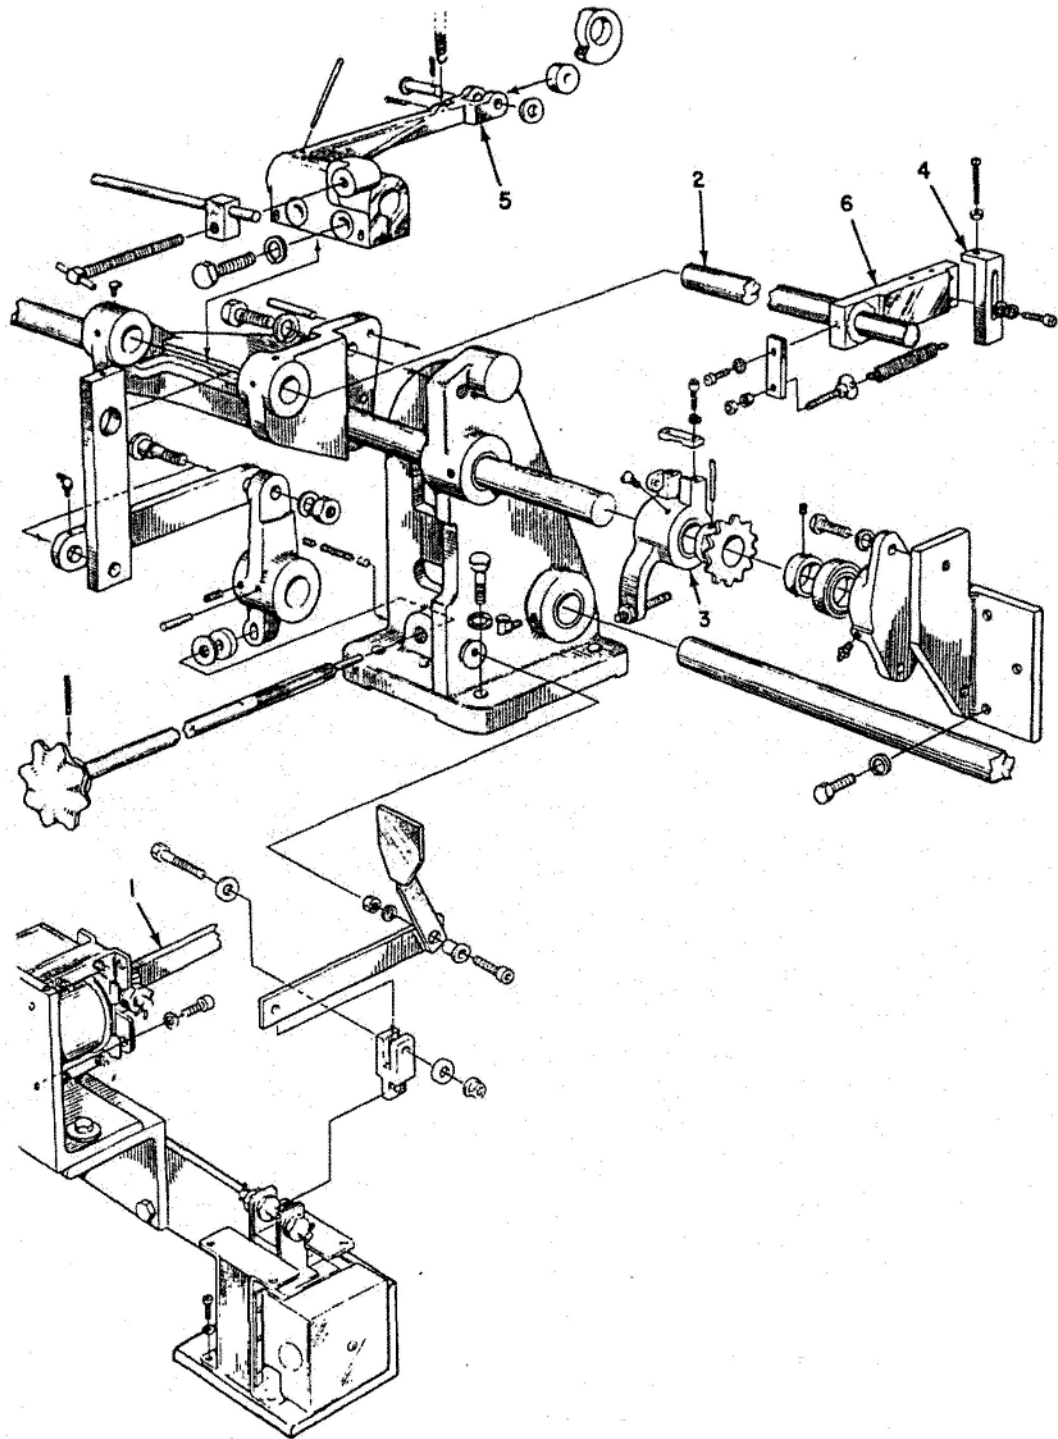

Figure 27 - Front End Drive Shaft
2. Check to see that the drop roller lock shaft (2), Figure 27, is properly locked during the stapling cycle. This lock consists of members (3) and (4). The function of this lock is to maintain the lower feed rollers in their upper position during the stapling cycle.